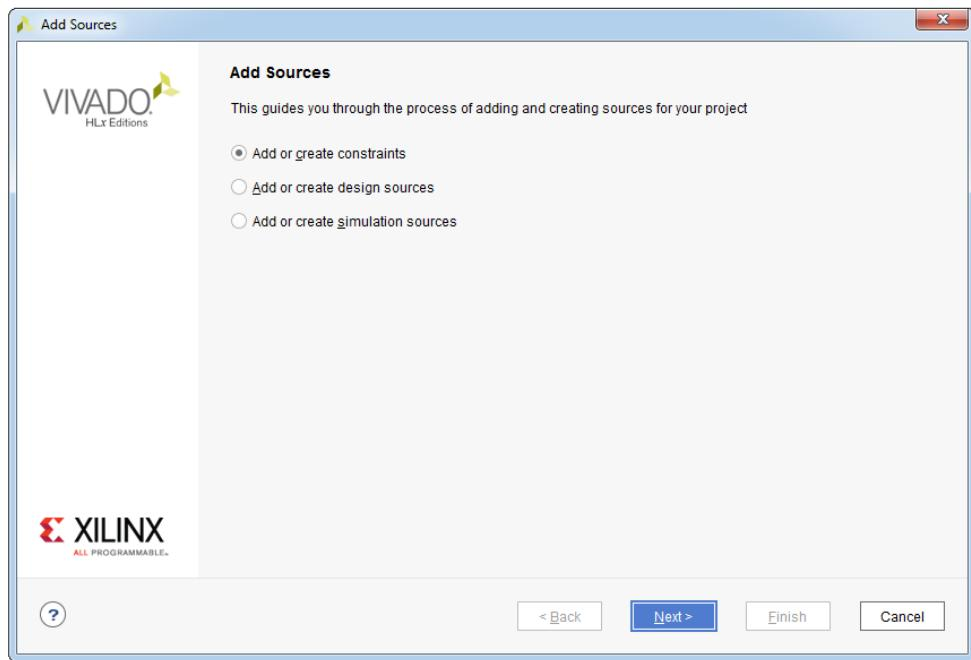

Figure 10.8: Add Sources dialog box - Add or create constraints option
9. In the **Add Sources** dialog box, select **Add or create constraints** option to add the constraints file to the project, see Figure 10.8.